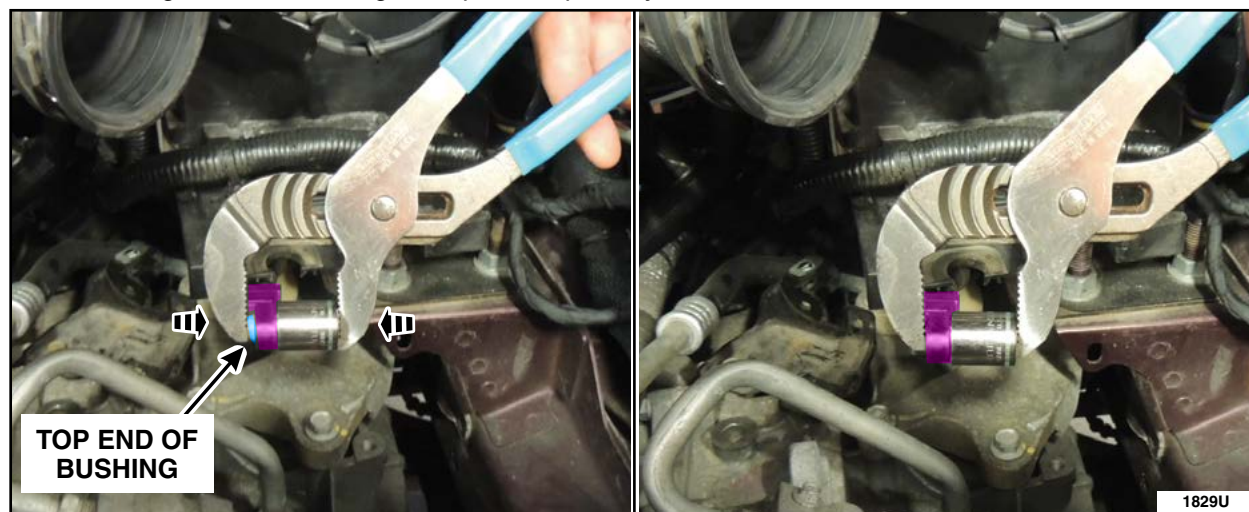

FIGURE 4
6. Using a pair of Straight Jaw Adjustable pliers and a 15mm shallow socket push the bushing partially out of the selector lever cable end. See Figure 4.